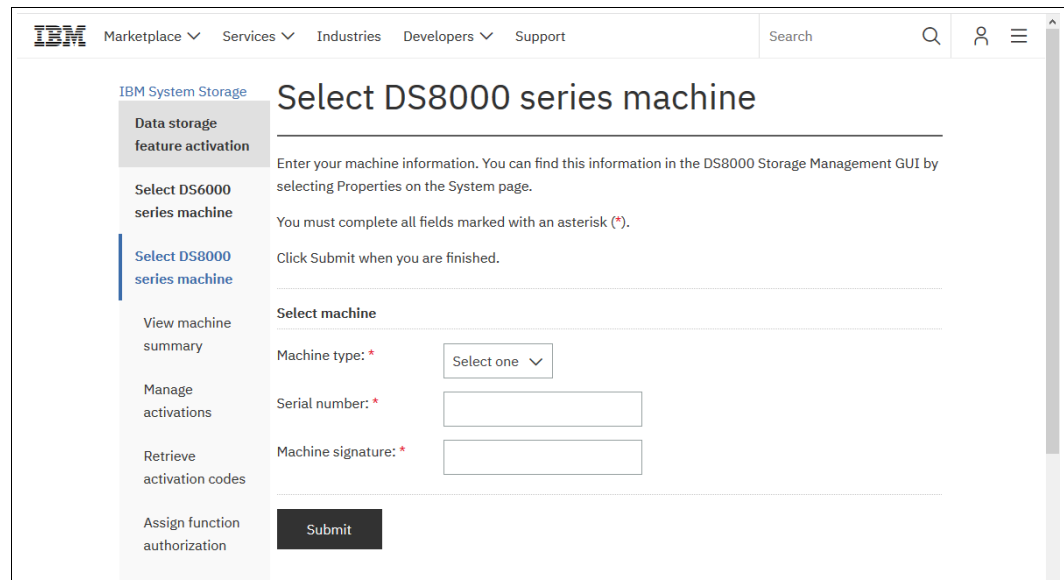

Figure 7-9 DS8000 DSFA machine information entry window
2. Click **DS8000 series**. The Select DS8000 series machine window opens, as shown in Figure 7-9. Select the appropriate 5341, 533x, 283x, 242x, or 958x machine type.